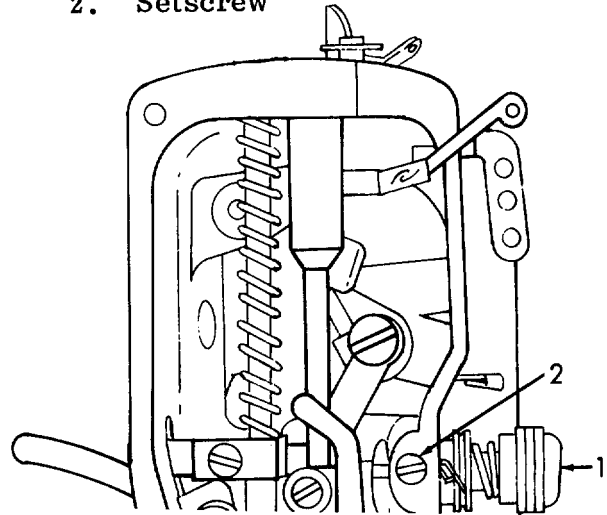

Figure 6-93. Needle Thread Tension Assembly, Installation.
- (2) Clean using cleaning solvent (Appendix E, item 2) and either a soft, clean cloth (Appendix E, item 3) or a medium bristle brush (Appendix E, item 1).
- (3) Allow to dry.
*c. Inspection. Inspect assembly for damage.**d. Repair.* Repair of the needle thread tension assembly is limited to the replacement of a defective assembly.*e. Installation (Refer to Figures 6-93 and 6-94).*
- (1) Refer to Figure 6-93. Install thread tension assembly (1) into upper arm as an assembly.